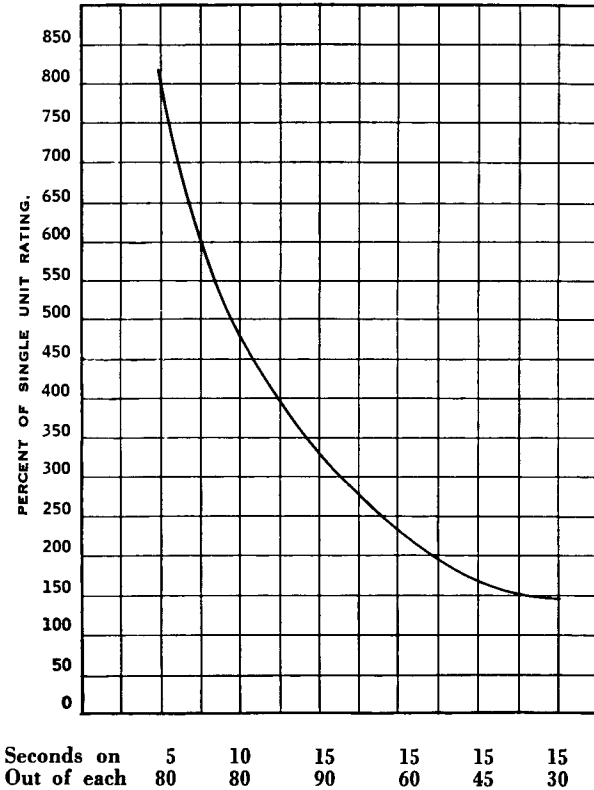

Figure 3-28. Effect of Intermittent-duty Operation on Rated Capacity of Vitrohm and Ribflex Resistors
7. *Intermittent-duty Ratings* — Intermittent-duty ratings for Ribflex and other resistors are based on their continuous-duty rating and then modified according to the duty cycle. The curve in Figure 3-28 gives the relationship between the percent of single unit watt ratings of resistors at various intermittent duty cycles. The values shown are with $2\frac{1}{2}$ inch spacings and a maximum temperature rise of 375°C .
To apply this curve, let us assume that in a motor starter for a D.C. motor driving a constant speed compressor, the duty cycle is to be 10 seconds “on” out of each 80 seconds and that the power to be dissipated in starting is 13,000 watts (RMS). From Figure 3-28 it can be seen that the rating for the specified duty cycle is 475 percent or 4.75 times the continuous duty rating.